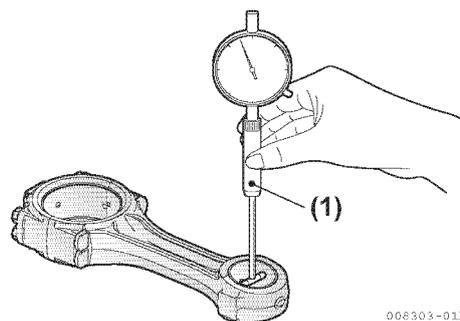

**Figure 5-101**
- If a torque wrench is not available, make match marks on the bolt heads and rod cap (to indicate the proper torque position) and retighten the bolts to those positions (Figure 5-101).